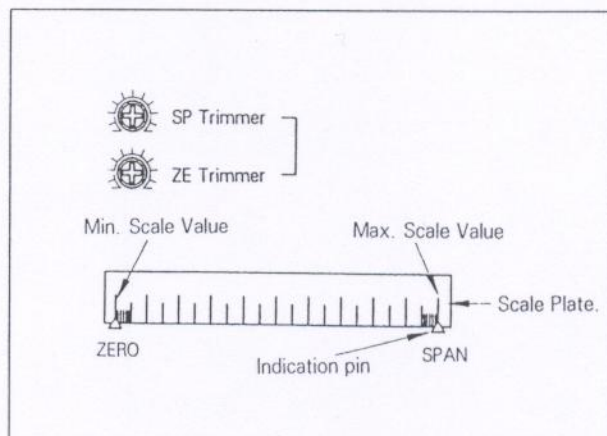

Fig 7.2
- 2) Adjust with trimmer referring to fig 7.2.